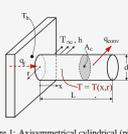

Figure 1: Axisymmetrical cylindrical (pin) fin.
1. Following *Homework 1 - AA 2021/22*, first case, consider a cylindrical (pin) fin, as shown in figure 1, which is made with a uniform, isotropic material with a thermal conductivity value of  $k = 40$  W/(m K). The fin has a length  $L = 40$  mm and a diameter  $d = 4$  mm. The fin is cooled only by convection with a convective heat transfer coefficient  $h = 400$  W/(m2 K), and the temperature of the surrounding fluid is  $T_\infty = 25$  °C. The temperature of the base of the fin is maintained at a temperature  $T_b = 200$  °C, while also the tip of the fin contributes, with the same heat transfer coefficient, to the overall heat flux.